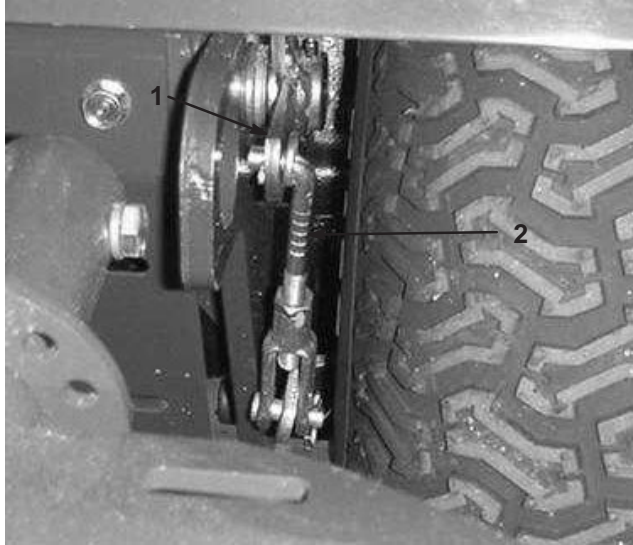

Figure 62
3. Loosen the jam nut on the clevis. Remove the cotter pin securing the top of the clevis to the upper brake lever (Fig. 62). Rotate the clevis, one turn at a time, to decrease the distance between the levers.